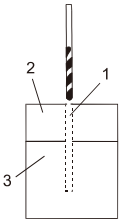

Fig. 8
1. Clamp the components that are to be screwed together in their desired position (Fig. 8).
2. Drill a pilot hole (1) through the outer piece (2) and into the inner piece (3). Drill hole $\frac{2}{3}$ the diameter of the smooth portion of the screw shank.